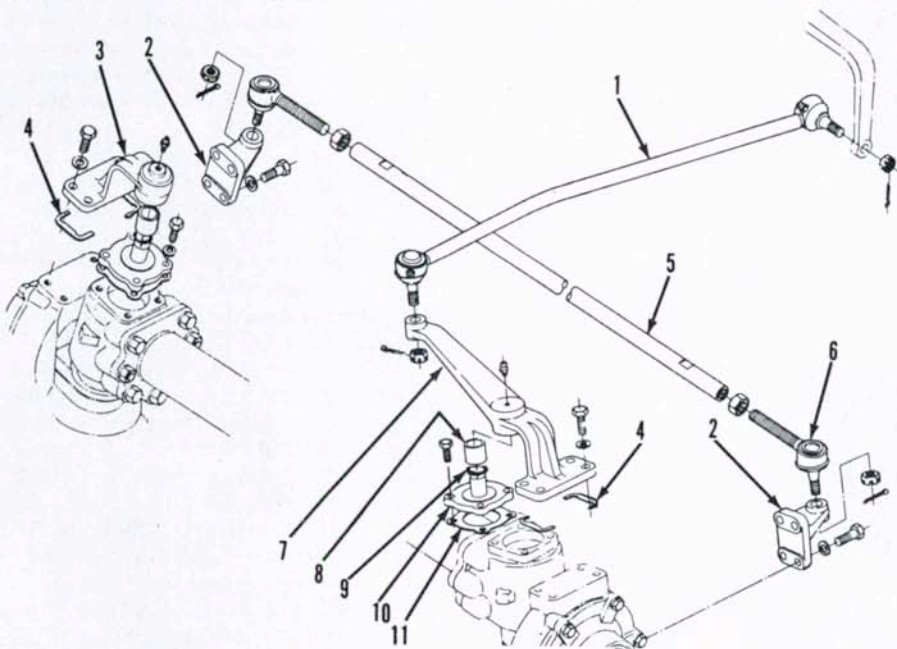

Fig. 11—View of front-wheel drive steering linkage and knuckle pins.
Remove knuckle support (right side) or steering arm (left side), then remove knuckle pin (10—Fig. 11). Retain shims (4) for use in reassembly. Remove lower bearing cap (22—Fig. 10), bearing (21) and bevel gear (23). Keep shims (20) together for use in reassembly. Tap bevel gear shaft (13) upward and remove upper bearing (8) and split collar (9), then tap shaft downward and separate bevel gear housing (10) from axle case (24). Remove bearings and oil seal (17) from bevel gear shaft.
Examine gears for chipped, cracked or missing teeth. Inspect bearings for roughness, corrosion or other damage. Check diametral clearance of knuckle pin (10—Fig. 11) in bushing (8). If clearance exceeds 0.4 mm (0.016 inch), renew parts as needed. Renew all "O" rings and oil seals. Lubricate parts with clean oil prior to reassembly.